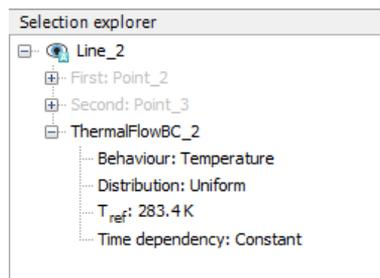

Figure 15.3 Thermal boundary condition in the *Selection explorer*
- Set the reference temperature, T_{ref} to 283.4 K (Figure 15.3).